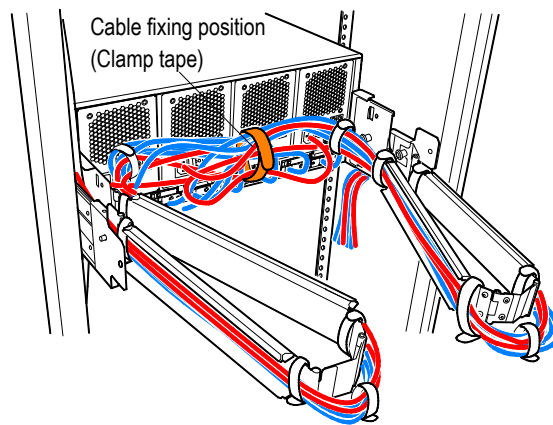

Figure 2.4.89 Fixing the Cables in the Middle
NOTE : Keep the cables near each connector (Figure 2.4.89 ①) from hanging down below the array.